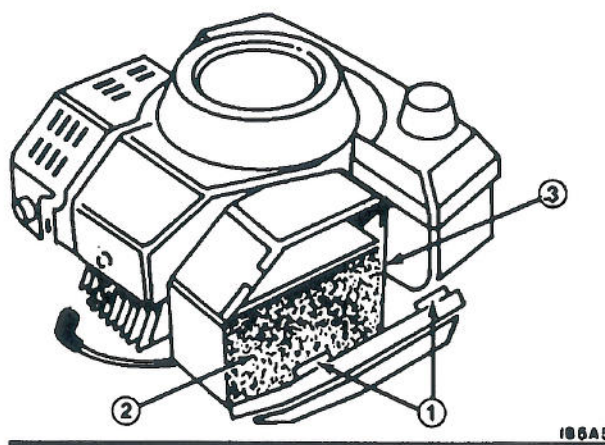

Figure 13
1. Lift tabs securing top of air cleaner cover and pivot cover down. Clean inside of cover if it is dirty (Fig. 13).
2. If air cleaner element is dirty, clean thoroughly (Fig. 13).